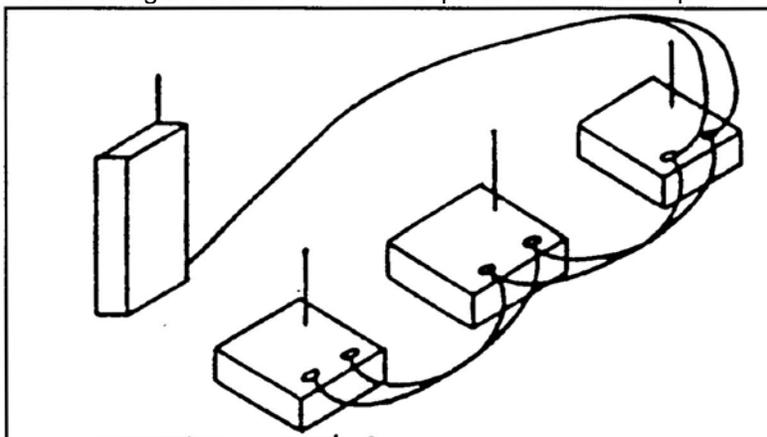

Figure 1. Hooking detectors in a hot loop.
- (1) The detector's maximum detection range is 10 meters.
- (2) The maximum distance that the detector can be from the receiver is 1,500 meters.
- (3) With the above two items in mind and the limited number of detectors normally available, care must be taken in selecting the installation sites of the detectors.
- (4) Because of other surveillance devices within a unit, such as night observation devices, infrared (IR) viewing devices, and thermal sights, PEWS should be used to cover areas the other devices cannot cover.
- (5) When a large area must be covered and a large number of detectors is available, detectors can be emplaced using the hot-loop method (maximum of 16 detectors per loop).
- (a) In the wire mode, the receiver can handle nine wires, but by connecting more detectors on each wire, or as many wires as needed, a much larger area can be covered. Figure 1 shows the correct procedure to hook up a hot loop.